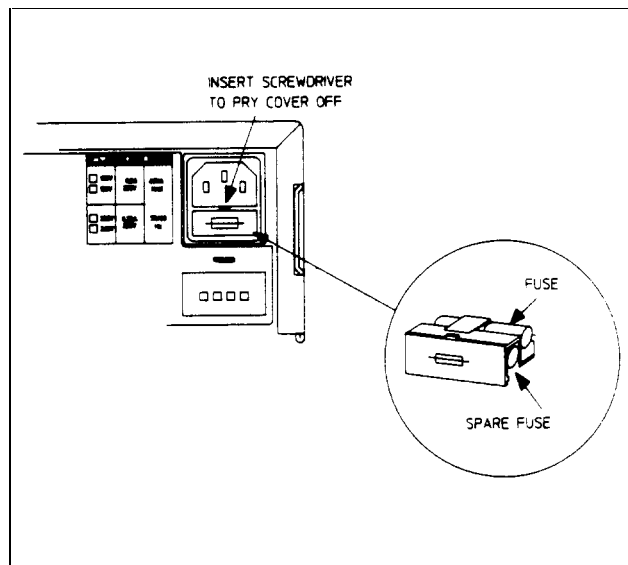

Figure 3-4. Line Fuse
6. The line fuse is located below the ac line receptacle (see Figure 3-4). With the power cord removed, use a small screwdriver to extract the fuseholder from under the ac socket. Replace the fuse with the appropriate type as indicated below. These are time-delay fuses.